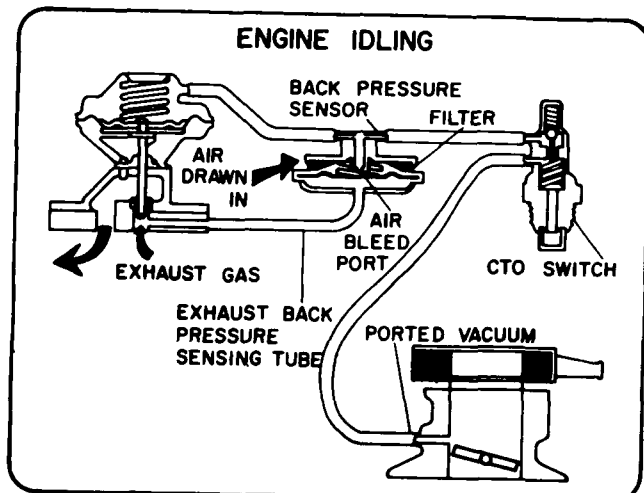

Figure 8-19
4. Figure 8-19 shows a ported vacuum EGR system with an exhaust back pressure sensor. List the basic steps necessary to operationally test this system with coolant temperature below 80°F and at normal operating temperature.